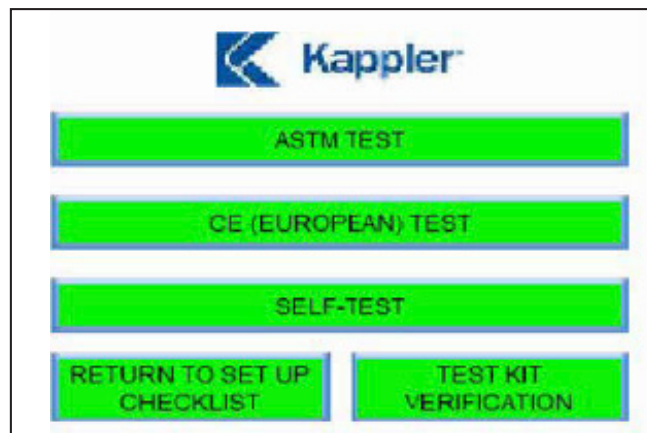

Figure 4: Test Selection Page
6. Press the “TEST SELECTION” button on the startup page to proceed to Test Selection Page (Figure 4).
7. Place each valve cover (M) and diaphragm (N) in a safe place until testing is completed.
8. Install the test kit valve adapters (A) into each exhaust valve, while reaching inside garment to support the exhaust valve from the inside. Firmly insert the valve adapters (A) into the exhaust valves sitting level with respect to the exhaust valve with a slight even twist to ensure a tight seal. Visually inspect the connection to confirm the valve adapters (A) are securely in place. Close the garment zipper ensuring the slider is firmly engaged against the zipper end stop. For instructions on proper zipper closing techniques refer to <https://www.kappler.com/files> “Technique for Closing a Gas Tight Zipper”.
9. On the test kit touch screen Test Selection Page (Figure 4), press the “ASTM TEST or CE (EUROPEAN) TEST, depending on the test needed. On the Test Page, press the “INPUT USER AND GARMENT INFORMATION” dialog box to reach the User and Garment Information Page (Figure 5). The information for the tester, the style/color/size of the garment, garment serial number, garment manufacturing date and test kit serial number can be recorded. After the necessary information has been entered, press the appropriate button and return to the ASTM or CE test page.